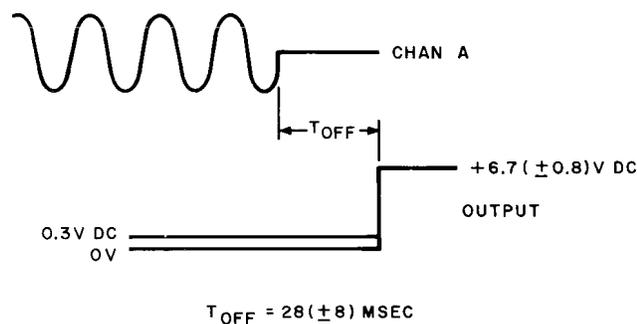

Fig. 16A — Single-Frequency Detector Test
- (6) Set the scope EXT SYNC TRIGGER to the (+) positive position. The output waveform at terminal 14 shall be as specified in Fig. 16A.